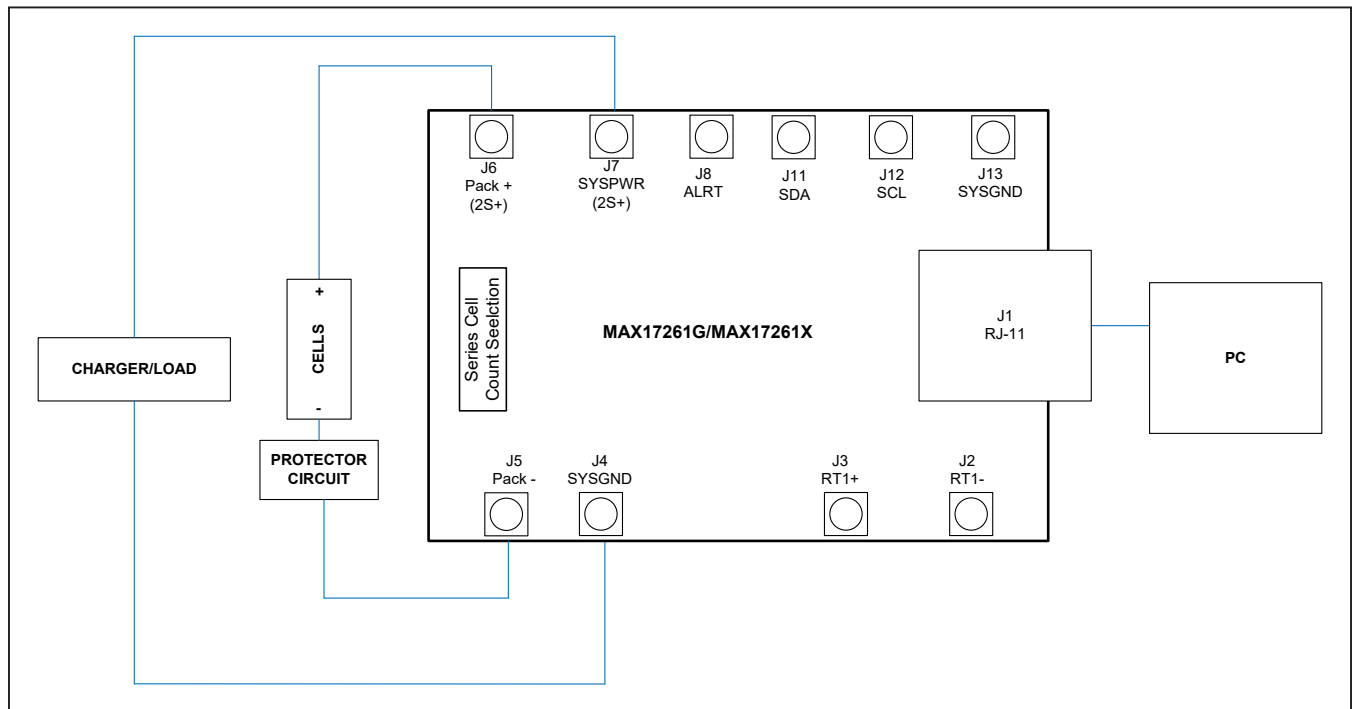

Figure 1. MAX17261 Board Connections
- 5) Make connections to the EV kit board based on cell pack configuration as shown in Figure 1. The load or charger circuit can be connected at this time as well. The cell connects between the PACK- and PACK+ pads and the charger/load connects between the SYSGND and SYSPWR pads. Connect a jumper on P1 to choose from 2S, 3S, 4S, 6S, and 8S configuration.